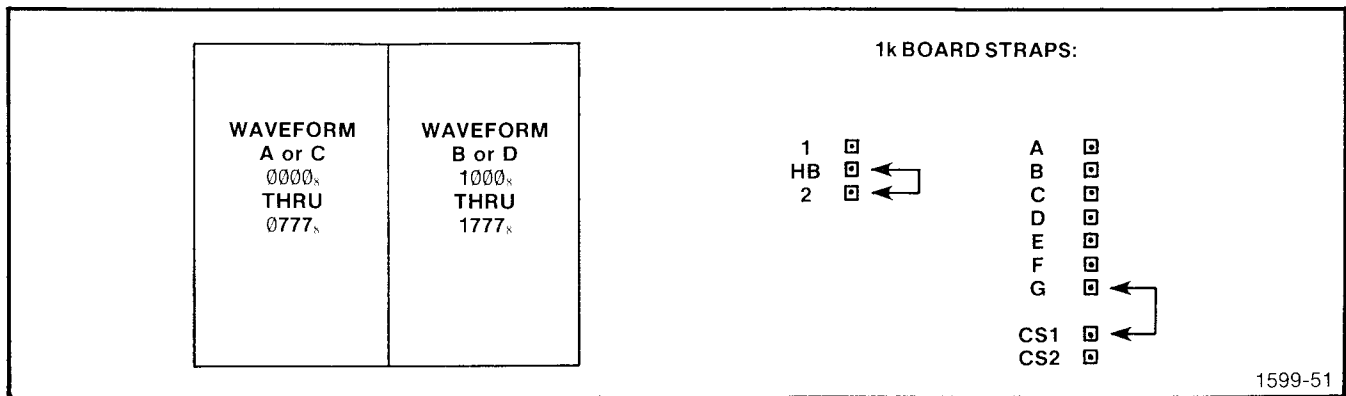

Fig. 3-7. 1 k Semiconductor Memory without Readout.
**1 k Semiconductor Memory Without Readout.** Another option allows the 1 k Semiconductor Memory to be able to store two waveforms (see Fig. 3-7). The memory is divided into two sections, one section for storing waveform A or C and the other section for storing waveform B or D. This option eliminates the readout and message storing capability.